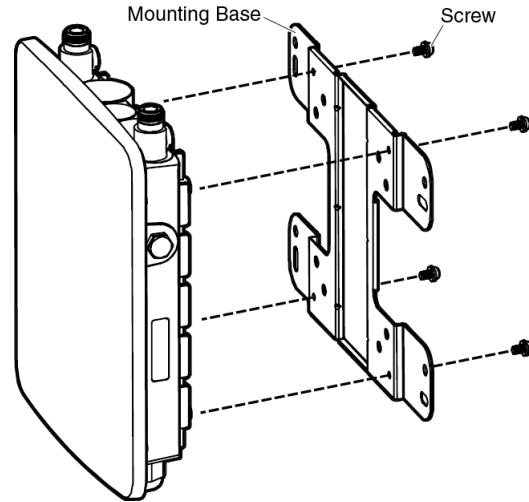

Figure 15. Attaching the Mounting Base to the Access Point
4. Attach the mounting base to the access point with the screws using a Phillips-head screwdriver, as shown in Figure 15.
3. Attach the mounting base to the access point with the screws using a Phillips-head screwdriver, as shown in Figure 15 on page 43.
2. Attach the mounting base to the access point with the screws using a Phillips-head screwdriver. See Figure 15 on page 43.